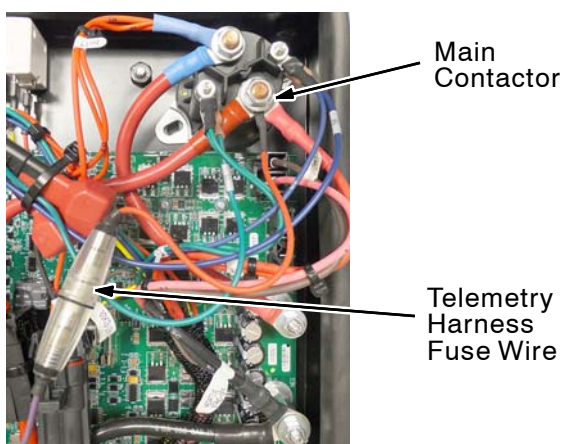

FIG. 5
4. EUROPE MODELS ONLY: Disconnect the red telemetry harness fuse wire from the main contactor (FIG. 5).